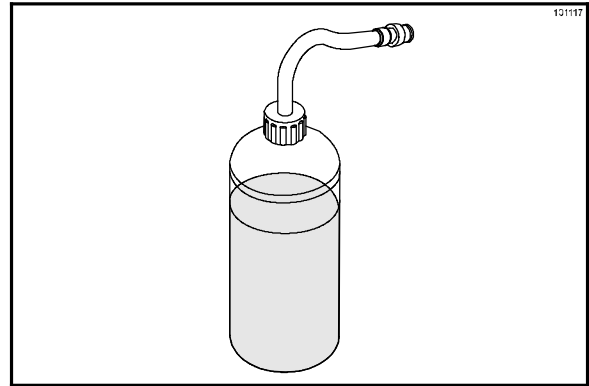

Figure 150
- Fill the cleaning bottle with a warm, approved sanitizing solution containing an active chlorine concentrate of 100 - 200 PPM. (See Figure 150.)